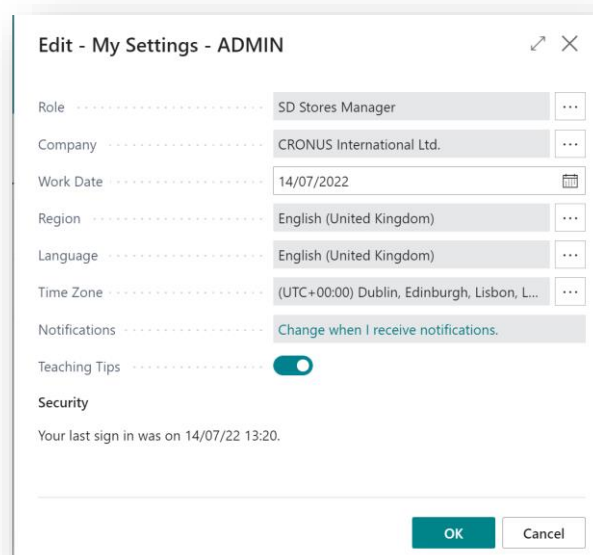

Figure 4-9
5. The **SD Stores Manager** Role should now be displayed in the **Role** field (Figure 4-9).